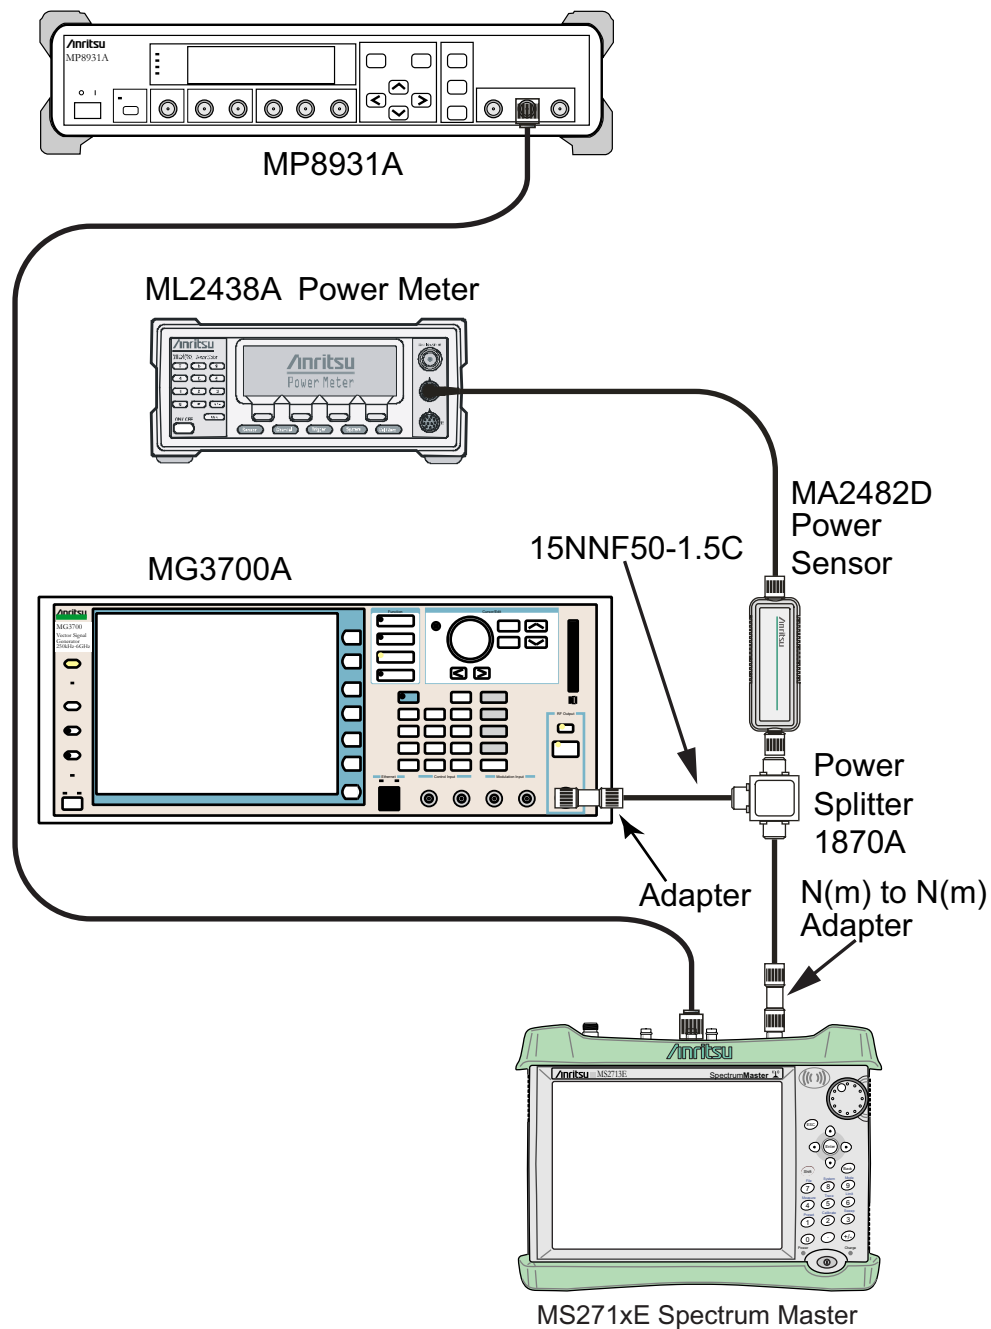

Figure 4-17. DVB-T/H BER, Option 57 – BER Functional Check Setup
3. Connect the MG3700A Signal Generator, Power Splitter, Power Sensor, 34NN50A Adapter, Spectrum Master, and the MP8931A as shown in Figure 4-17 on page 4-77.